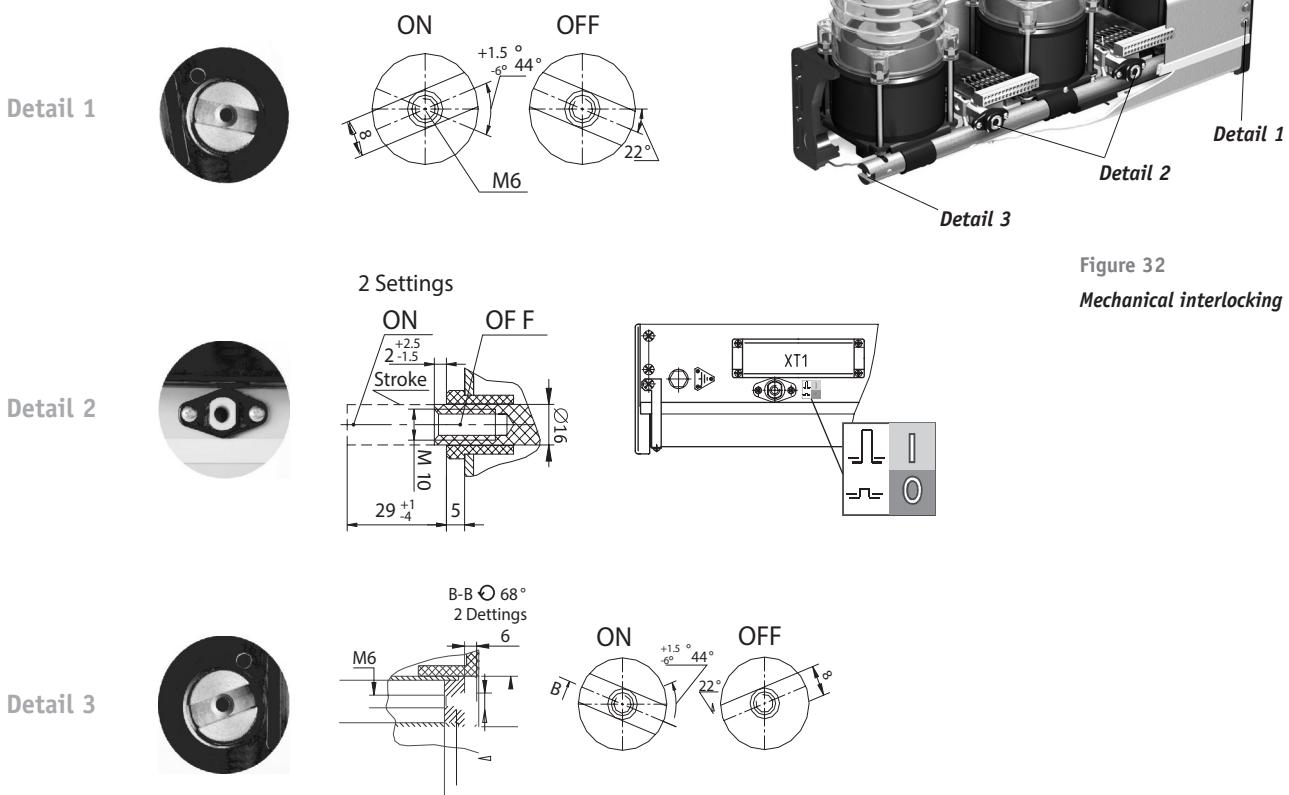

Figure 32
The ISM provides the following interfaces for interlocking (Figure 32):
- Stub shafts at both sides with grooves and tapped holes (Figure 32, details 1 and 3).
- Two interlocking pins with tapped holes (Figure 32, detail 2).